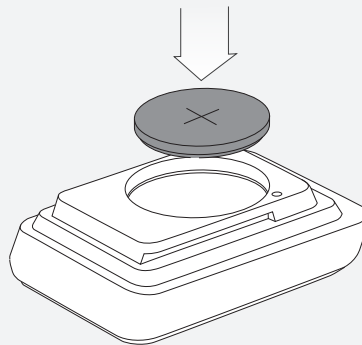

Figure 11. Insert the New Battery
4. Insert the new battery with the 'cross' and identifying label pointing up (Figure 11).